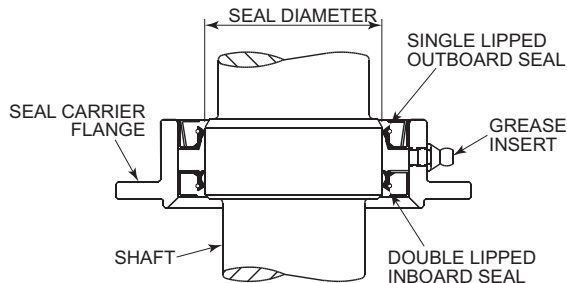

Figure 6.2.5 Placement of Seal Carrier Assembly onto Shaft
4. When the seal carrier is piloted on the shaft pilot, seat the seal carrier by slowly pressing down on the flange; reference Figure 6.2.5.